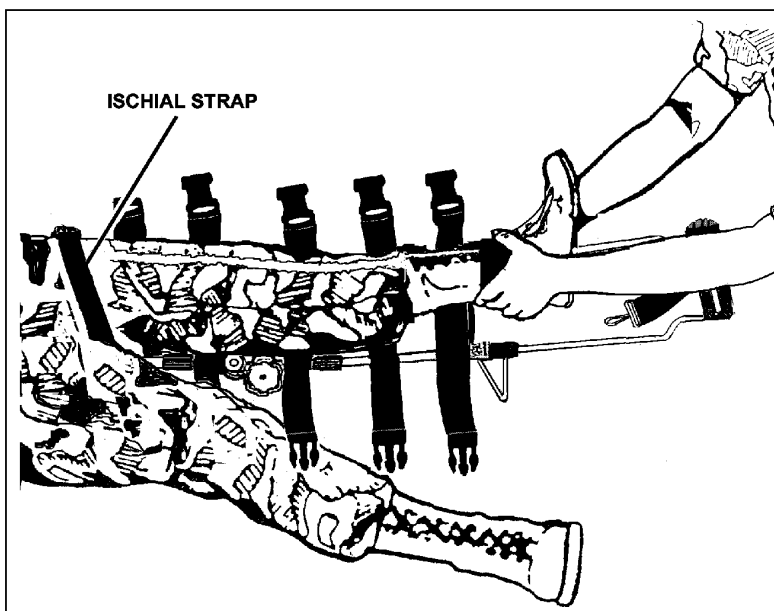

Figure 3-32
- 8. Apply the ischial strap. (See Figure 3-32.)